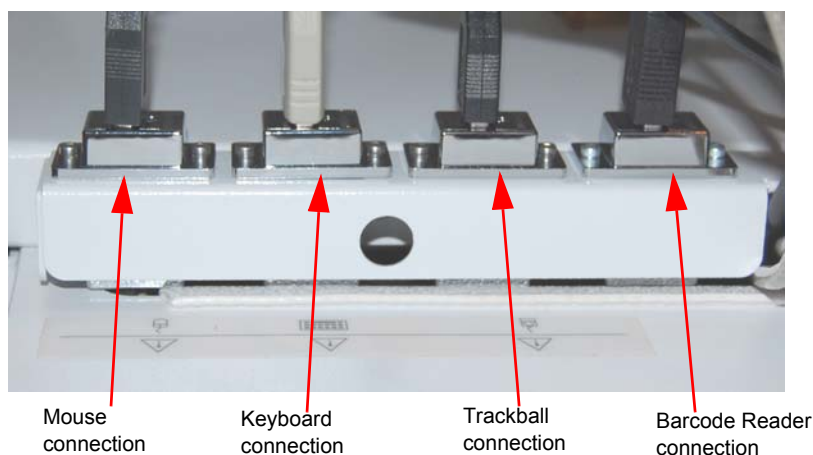

Figure 2-9 Global Console Rear Bulkhead, showing mouse, keyboard, barcode reader and trackball connections
- 2.) The SCIM, keyboard, trackball, mouse, and barcode reader all have USB connectors that connect in the rear bulkhead on the console as shown in Figure 2-9.